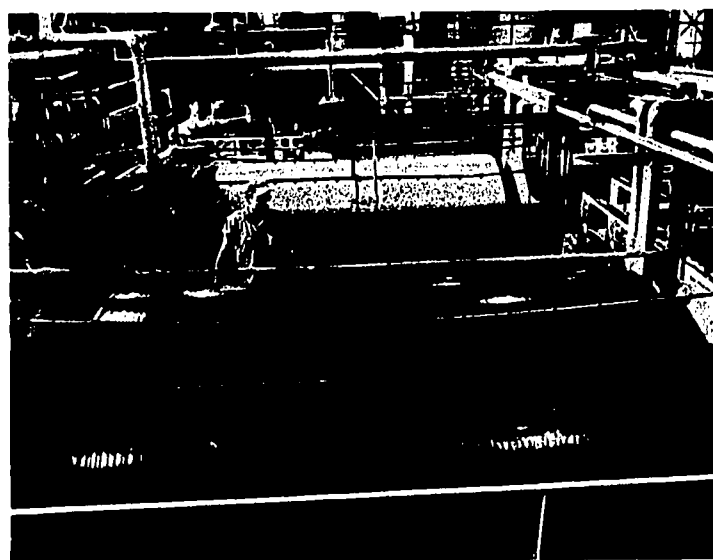

Fig. 47-4. Filtering is part of the fermentation process in making a chemical product.
The usual physical methods of refining raw materials are (1) *washing*, (2) *grinding*, (3) *screening*, (4) *filtering*, and (5) *floating*. Washing means taking dirt off the material and flushing with a liquid. Passing the materials through a screen is done to get pieces of the same size. Screening is often combined with grinding. Grinding reduces the size of pieces. Filtering of a liquid takes out solids not wanted. It can also be used to separate solid materials from liquids, Fig. 47-4. Floating methods are used to separate solids of different qualities. Certain substances called *surface-active agents* can cause water to foam when air is put in. The foam will hold lightweight solids. These solids can then be taken off with the foam. These solids are used in some other process, or they are thrown away.